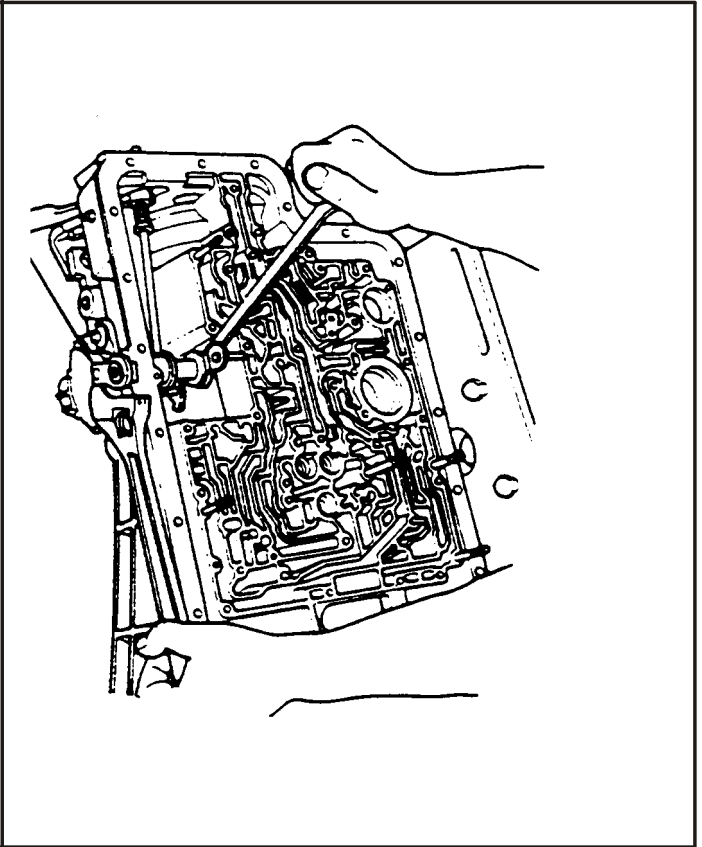

Figure 3
3. Remove lever nut while holding lever with suitable tool. (See Figure 3).